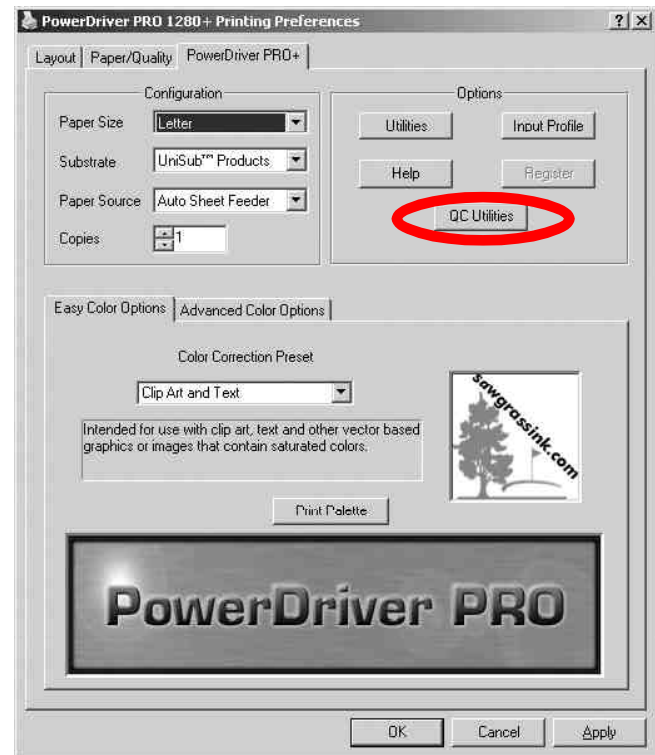

Fig. 3
- iv. On the PowerDriver PRO Properties tab, click **QC Utilities**; see Fig 3.